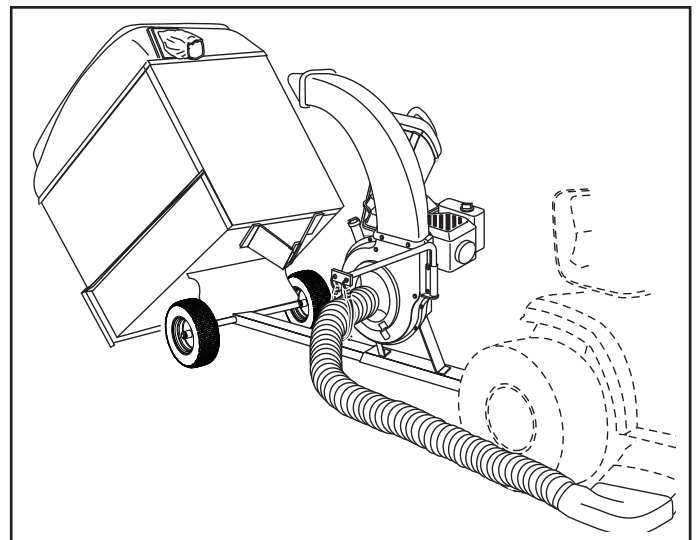

FIGURE 16
6. Release the latch holding cart down to the tongue by pulling up on the latch lever. See figure 16.